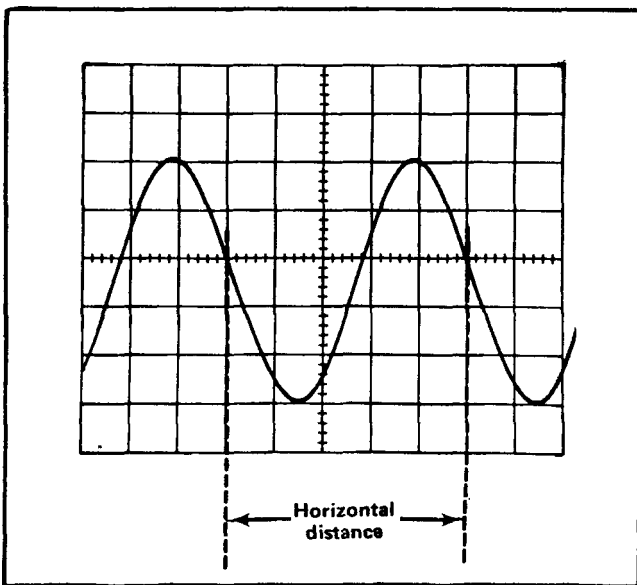

Fig. 2-9. Measuring time duration between points on a waveform.
5. Set the TIME/DIV switch to the fastest sweep rate that displays less than eight divisions between the time measurement points (see Fig. 2-9).
EXAMPLE. Assume that the horizontal distance between the time measurement points is five divisions (see Fig. 2-9) and the TIME/DIV switch is set to .1 ms.
EXAMPLE. The frequency of the signal shown in Fig. 2-9, which has a time duration of 0.5 millisecond, is: